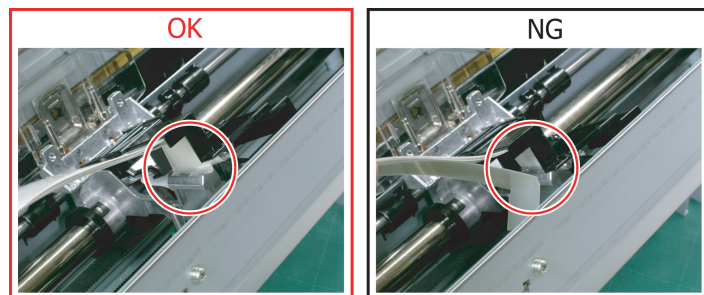

Figure 4-27. Cable Cover position during carrier holder reassembly.
- When installing the Carrier holder, replace the cable protector correctly in the CARRIER UNIT. See Figure 4-27.